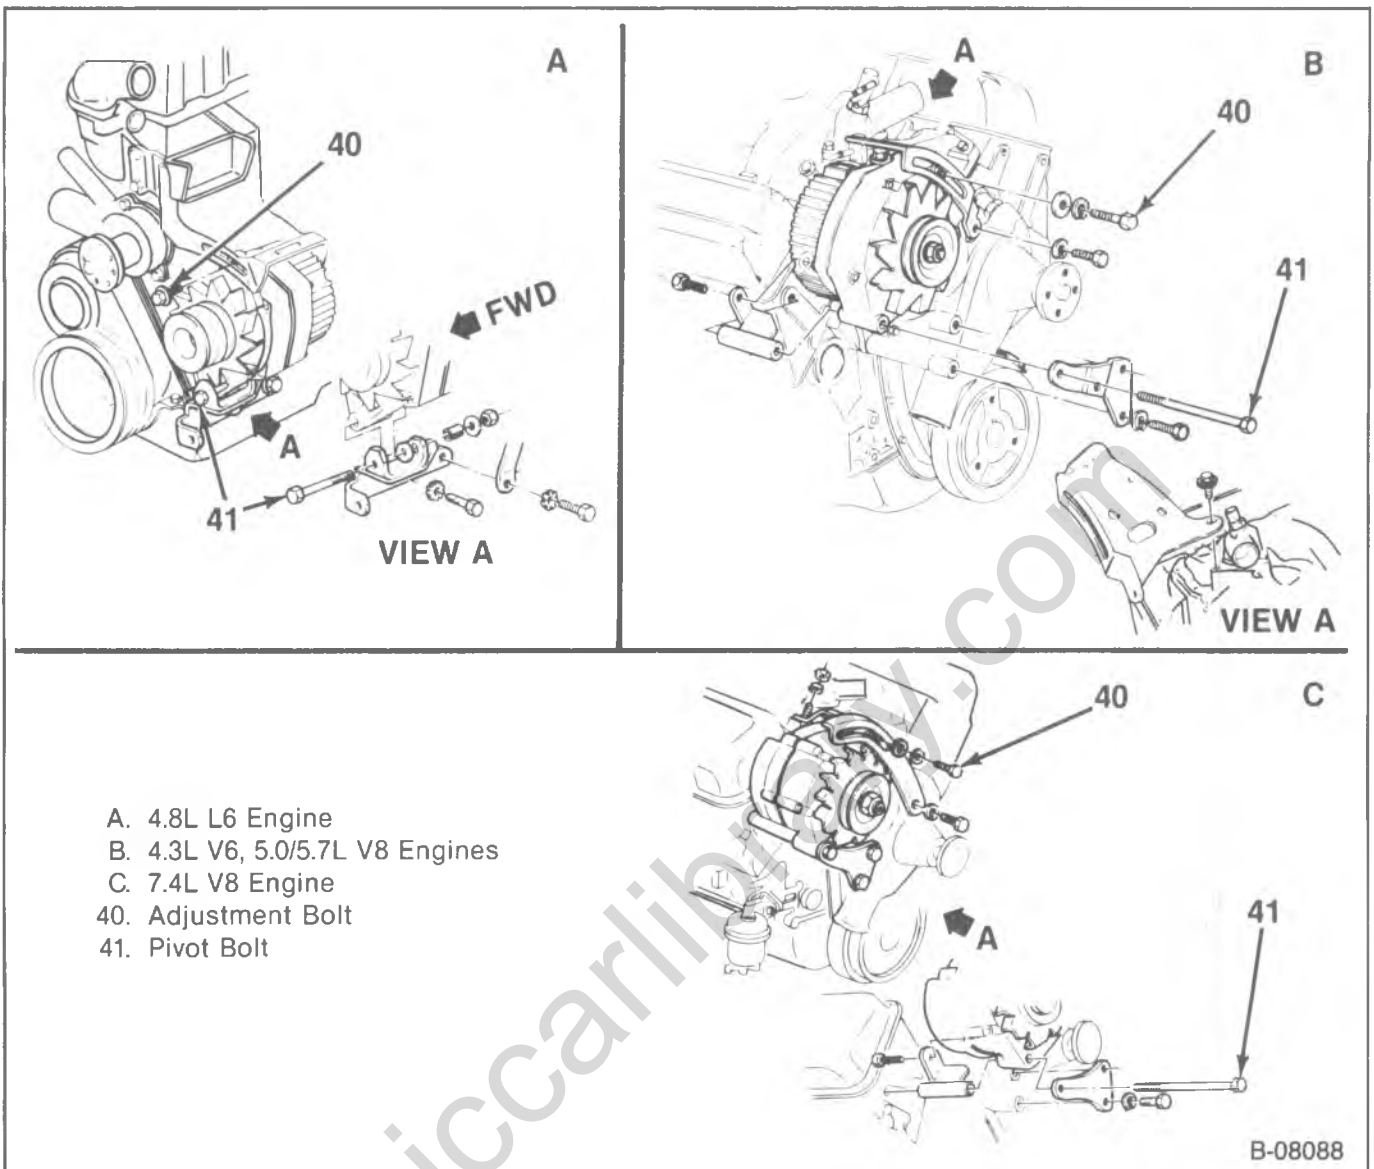

Figure 18—Generator Adjustment (R/V, G and P)
- Loosen the component driven by the belt (figures 18 through 22).
2. Loosen the component in its mounting bracket (figures 18 through 22).